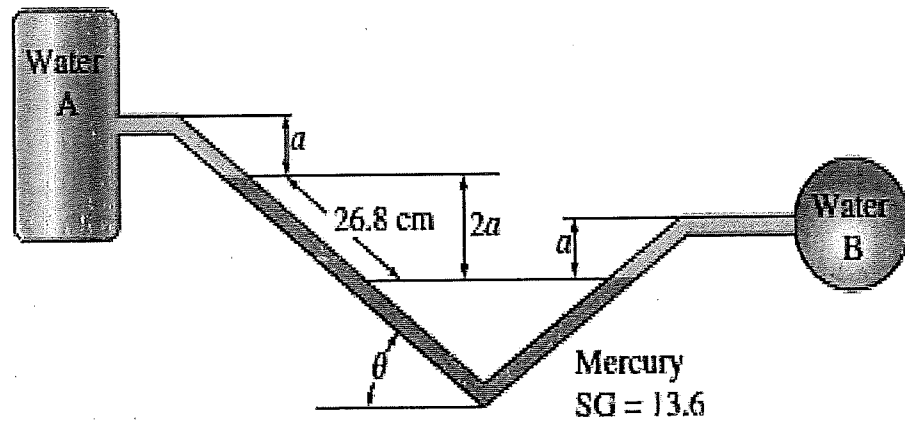

Figure 1 - A mercury manometer with inclined tubes
1. [a] Two water tanks are connected to each other through a mercury manometer with inclined tubes, as shown in Figure 1. If the pressure difference between the two tanks is 20 kPa, calculate the values of a and θ .